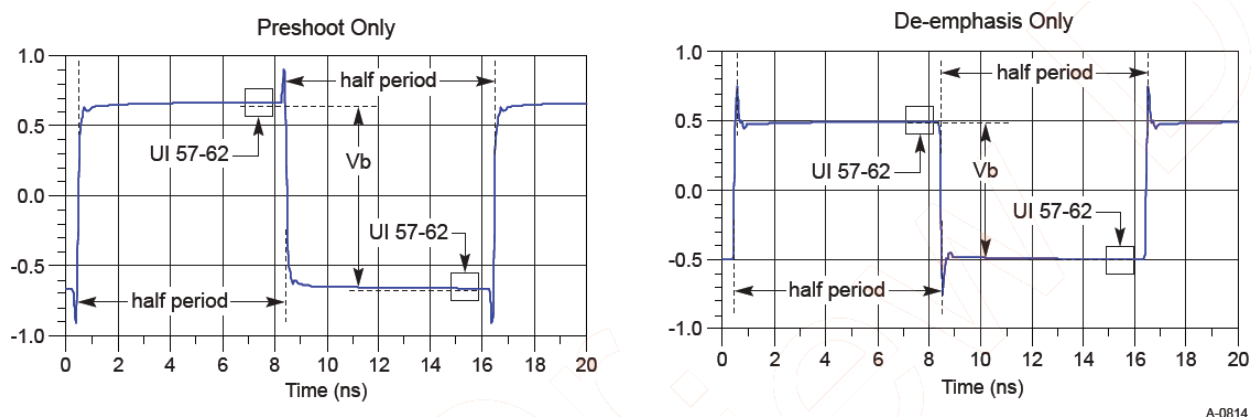

Figure 213 Waveform measurement points for preshoot and de-emphasis
8.0 GT/s, 16.0 GT/s and 32.0 GT/s PCIe signaling must support the full range of presets given in Table 8-1 (PCIe Base Specification Revision 5.0). Presets are defined in terms of ratios, relating the pre-cursor and post-cursor equalization voltages. The pre-cursor (V_c) is referred to as pre-shoot, while the post-cursor (V_b) is referred to as de-emphasis. This convention permits the specification to retain the existing 2.5 GT/s and 5.0 GT/s definitions for Tx equalization, where only de-emphasis is defined, and it allows preshoot and de-emphasis to be defined such that each is independent of the other. The tolerances in Table 8-1 (PCIe Base Specification Revision 5) also apply to 2.5 and 5.0 GT/s de-emphasis. The maximum swing, V_d , is also shown to illustrate that, when both c_{+1} and c_{-1} are nonzero, the swing of V_a does not reach the maximum as defined by V_d . The high frequency nature of PCIe signaling makes measurement of single UI pulse heights impractical. Consequently all amplitude measurements are made with low frequency waveforms as shown in Figure 213.